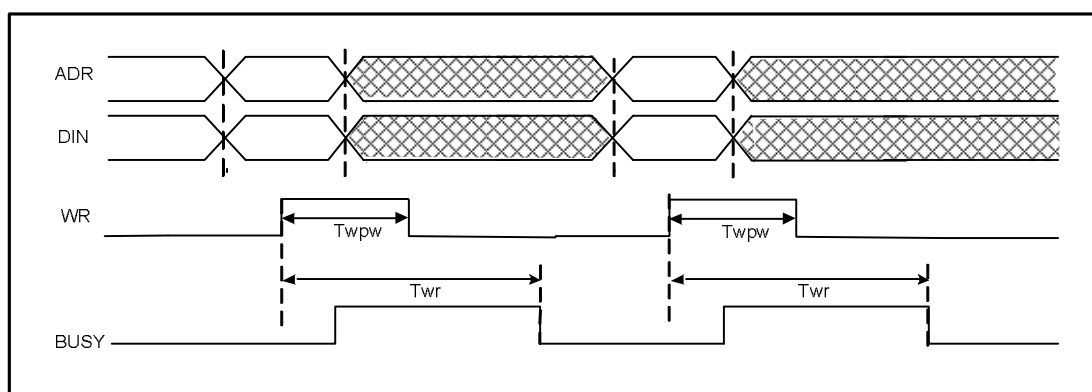

Figure 4.
2. The smart write mode is not writing in regular period like wait time mode. It must add **BUSY Check** mechanism together in write operation, which can monitor whether the write operation is complete or not. When the write operation is finished, it means all bit cell currents have come to PV or EV point, and then the **BUSY** signal will be pulled “low”. Refer to the Figure 4. If users implement the **BUSY Check** mechanism, it can make sure :